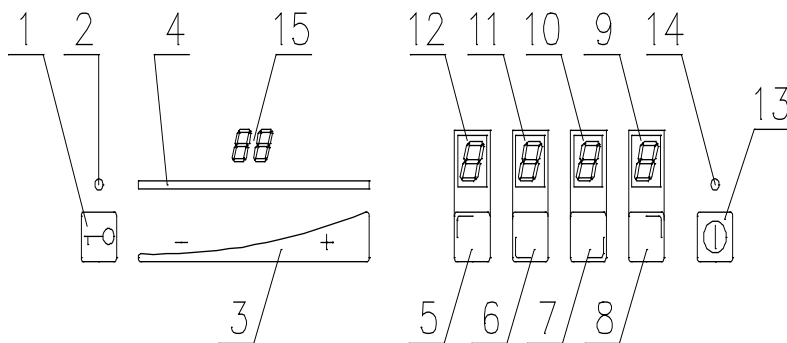

Fig. 2 (control panel - item 8. on fig. 1.)
-A **touch control panel** is located in the front part of the hob (fig. 2). It is for controlling and regulating the specific gas burners of the cooker. It also displays relevant messages of the hob operating conditions.
- **TIMER function, touch the burner selection fields twice (Fig.2, no 5,6,7 or 8), touch "+" and "-" two times to select time in minutes (from 1 to 99 min.), the burner stops automatically after selected time**
- **HOT AREA temperature regulation, touch the burner selection fields three times (Fig.2, no 5,6,7 or 8), touch "+" or "-" to select option "1"- temperature over 100C, option "0" (set by default) to select temperature below 100C. Important: the regulation refers to 120mm burners only.**
When you choose any single burner by touching the controller activating field no 5, 6, 7 or 8 on fig. 2 and set the power by touching the power setting slider, no 3, fig. 2, within a range exceeding "0", the selected burner will go on. This is supposed to happen within less than 5 seconds of enabling the controller via on/off sensor - item 13 on fig. 2. If the delay is longer than specified above, the burner will not start and the controller will switch to standby mode until further instruction is received.
- Touch the on/off sensor **no 13 fig. 2**. "0" indicators will light up in fields **5, 6, 7, 8**. If you touch the sensor corresponding to the selected burner – **fig. 2**, again, as needed and as indicated on the
heating panel, you start the second stage of burner setting. Slide your finger along the setting slider - **fig. 2 no 3**– to set the required power of the burner. At that time, the power setting display – no **4 of fig. 2** – displays a row of diodes and a digital message shows in the previously selected field, within the range of **0** to **9**, showing the power level set.
*You may also change the burner power in a different way. First activate the selected burner (fields 5, 6, 7,8 of the controller) by touching any location within the power setting control field - **no 3 on fig. 2**. The activated burner’s power will change in increments, to reach the level corresponding to the touching point. Set the power level using this method within not more than 5 seconds. After 5 seconds of completing the last change of pad power, the control pad of the controller will stop receiving further instructions, and a new power value of the selected burner will be set as specified in the preceding step.*
When you have started all burners, their power settings are displayed accordingly and the LED row - **no 4. fig. 2** is off. Burners that have not been switched on in the relevant controller field corresponding to the burner indicated on the panel will remain off and not light up.
The hob operating status with preheating is a transitory condition for rapid achievement of target temperature of the active hot field, up to the heating power set. It is signaled by the decimal point next to the active burner’s digital indicator (5,6,7,8 fig2).
In order to switch off any of the operating burners, touch the corresponding sensor, then slide your finger along the slider towards the “key” so that to reduce the burner’s power setting to “0” (gas supply shutdown). During this operation, the row of LEDs (**no 4 fig. 2**) showing the power level goes down and the digits decrease from the level previously set to level “0”. When level “0” is reached and the controller is ready for restarting, the letter “H” will display after a moment, indicating that the panel is hot in the location of the burner that has just been shut down.
- touch the sensor /key/ with your finger - **no 1 fig. 2** at least twice in 2 seconds’ time. When pressed shortly twice, the controller will be locked,
- signaling LED lighting up and a sound signal **no 2 fig. 2** indicating the controller lock status, a long sound signal will be heard simultaneously. The hob controller does not respond to any instructions except for lock status change.
- touch the sensor with your finger (**no 1 fig. 2**) twice within up to 2 seconds,
- the signal LED (**no 2 fig. 2**) goes off, the lock is off, and a sound signal is emitted.